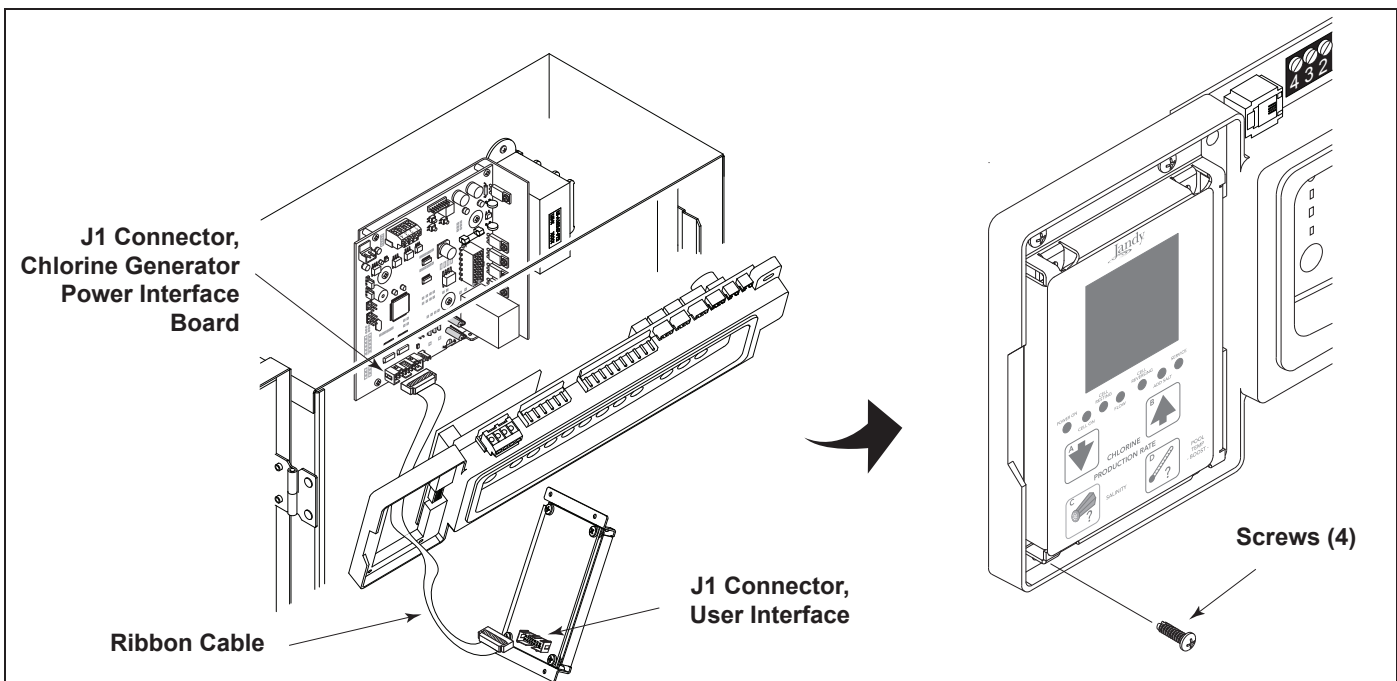

Figure 10. Installation of the User Interface
1. On the chlorine generator User Interface Board (UIB), connect one end of the ribbon cable to the 16-pin J1 connector as shown in Figure 10.
3. Attach the chlorine generator User Interface Board (UIB) to the bezel using the four (4) screws provided.